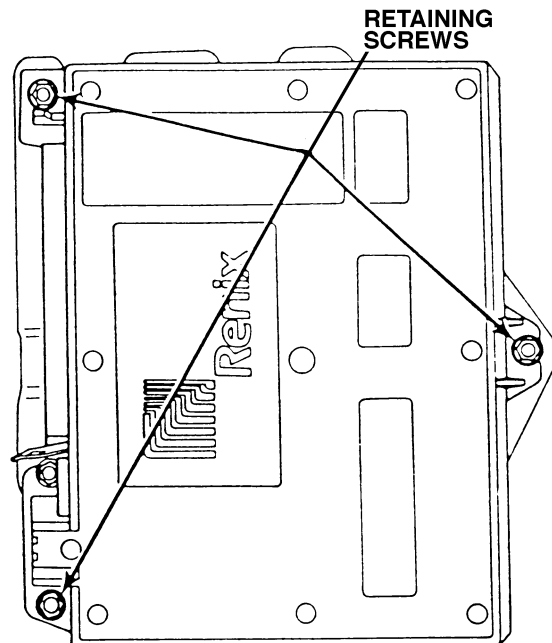

Figure 4.
14. Remove the three ECM retaining screws (Figure 4) and move the ECM and harness out of the way. If necessary, remove the cruise control module to gain access to the ECM.